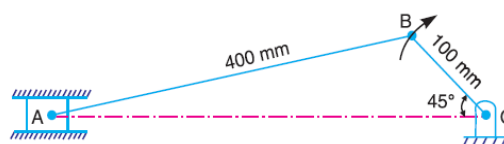

Fig. 6.12
7. Locate all the instantaneous centres of the slider crank mechanism as shown in Fig. 6.12. The lengths of crank OB and connecting rod AB are 100 mm and 400 mm respectively. If the crank rotates clockwise with an angular velocity of 10 rad/s, find: 1. Velocity of the slider A , and 2. Angular velocity of the connecting rod AB . 10M